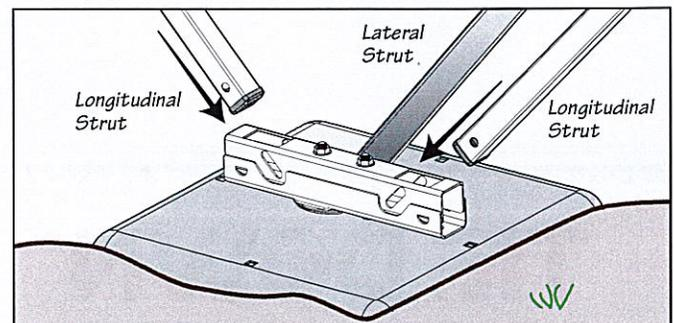

Fig. 3-4
- Insert longitudinal struts into the ends of the assembled tension bracket as shown in Fig. 3-4. The struts will hang loose.